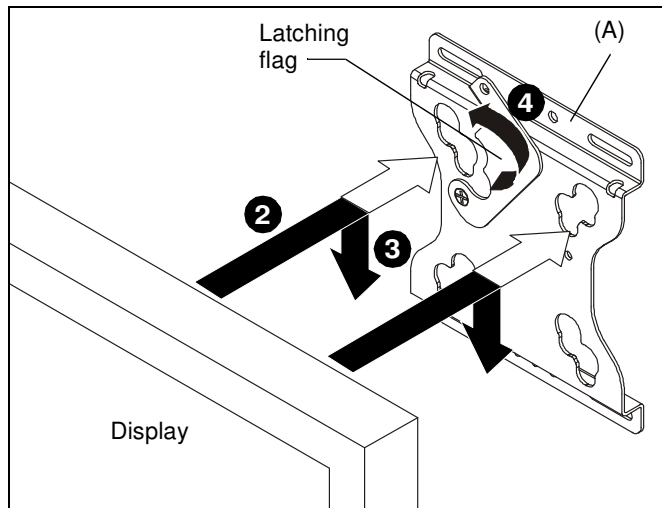

Figure 7
2. Lift and maneuver display such that all mounting buttons fit into openings on FSR assembly (A). (See Figure 7)
3. Lower display firmly into place. Ensure each mounting button has fully seated in the opening. (See Figure 7)
4. Close latching flag by rotating flag counterclockwise on FSR assembly (A). (See Figure 7)